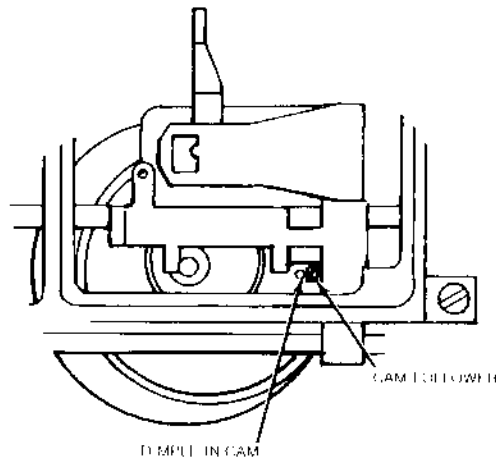

FIGURE 29. TRACK ZERO POSITION
- c. Rotate the head arm actuator until the cam follower is opposite the track 00 dimple in the cam. Reference Figure 29.